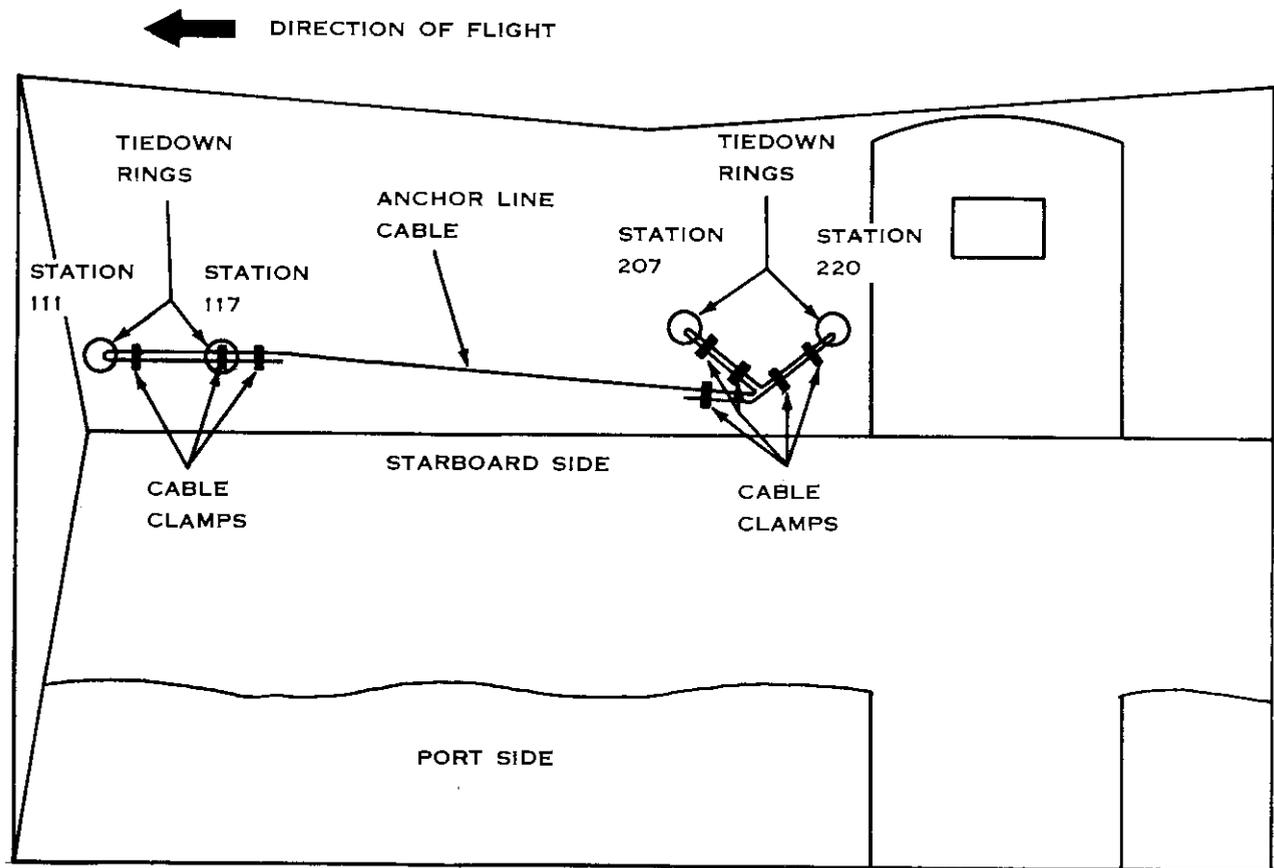

Figure 106. U-1A anchor line cable installation.
(4) Tape the aft lower corner of the portside door frame.
(5) Pad the portside of the fuselage, aft of the door, in the vicinity of the U.S. star marking.
(6) The relief tube projecting below the fuselage on the portside aft of the door is taped to prevent fouling the static lines.
(7) Install anchor line cable assembly on the starboard side as follows (fig. 106).